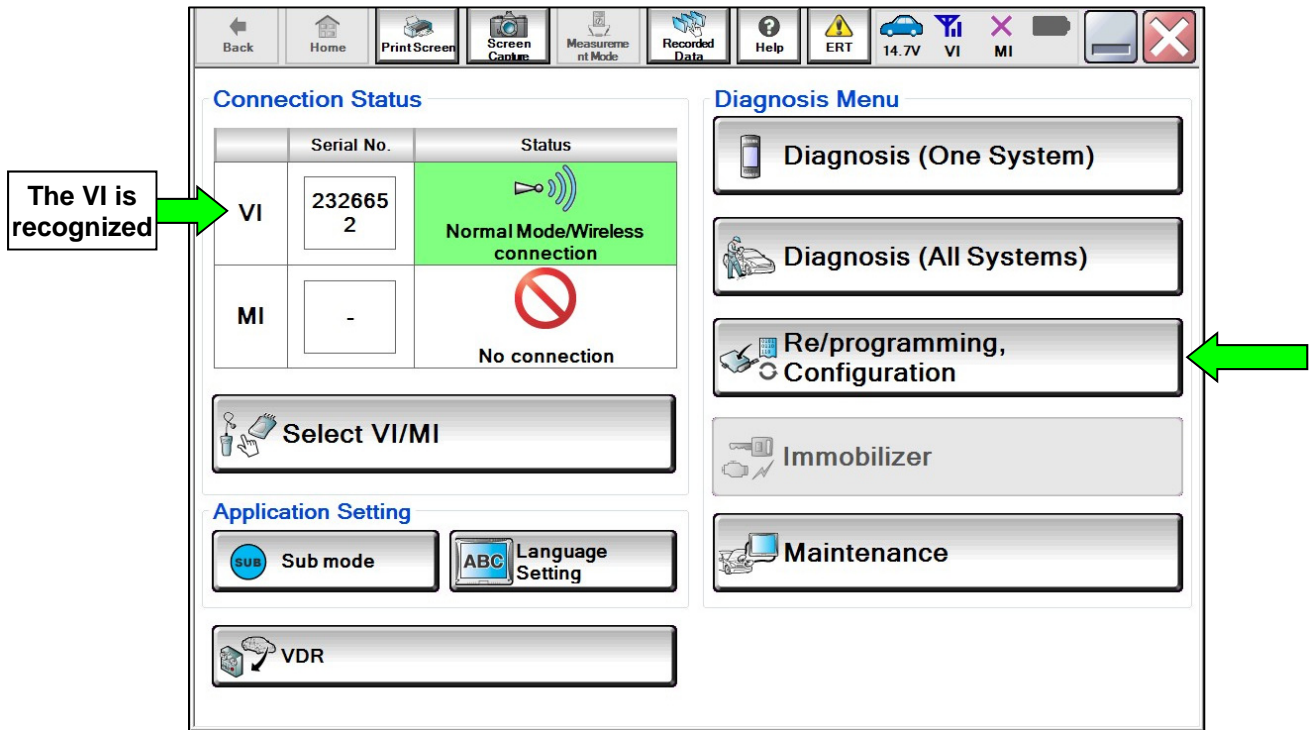

Figure 2
- The serial number will display when the VI is recognized (see Figure 2 on page 3).